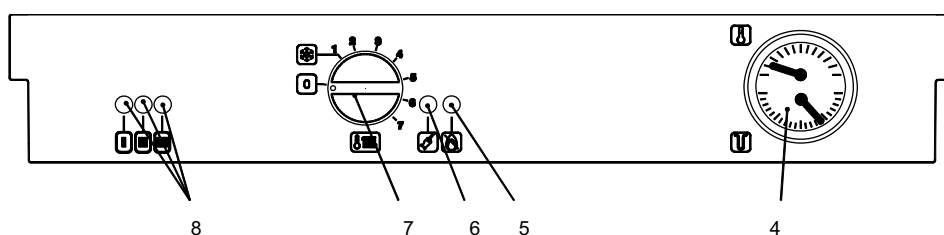
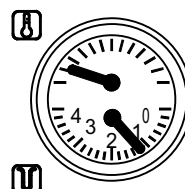

Figure 3.2
Figure 5.1
Three lights (8 in Fig. 3.2) give detailed indication regarding the operation of the boiler. The following table gives the relationship between each of the possible light combinations and their meaning.
- Ensure that the Central Heating circuit is regularly filled with water checking that the pressure indicated on the temperature and pressure gauge (4 on figure 3.2) is not lower than 1 bar (14.5 psi) as shown on figure 5.1.
- The temperature and pressure gauge (Fig. 5.1 on page 11) will allow you to check that the set temperature is obtained.
- You should check that the pressure on the temperature and pressure gauge (Fig. 5.1 on page 11) is not below the correct setting.
If the pressure on the temperature and pressure gauge (Figure 5.1 on page 11) has gone down:
- Check on the temperature and pressure gauge (figure 5.1 on page 11) that the pressure in the central heating circuit is not close to 3 bars (43.5 psi). In this case, temperature rise in the circuit can cause the pressure relief valve to open.